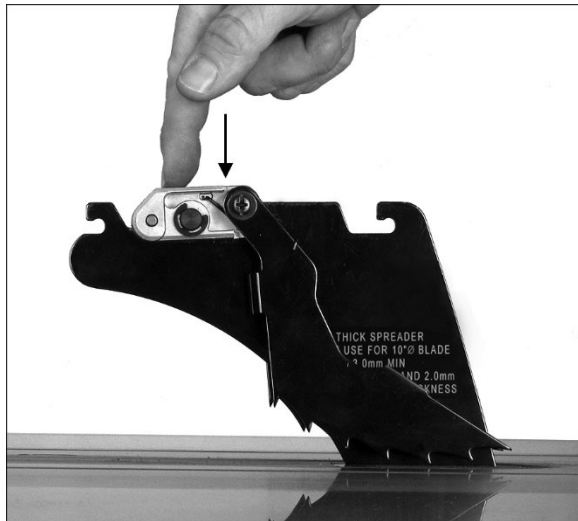

Figure 6-12
3. Pivot head and push it downward (Figure 6-12) until there is an audible click. *Make sure you hear the click to verify that pawl assembly is secure.*
1. Push up guard leaves (E, Figure 6-12) until they catch and hold on the peg (F).
3. Tighten knob (G).
4. Pull down guard leaves (E) and allow them to drop to the table.